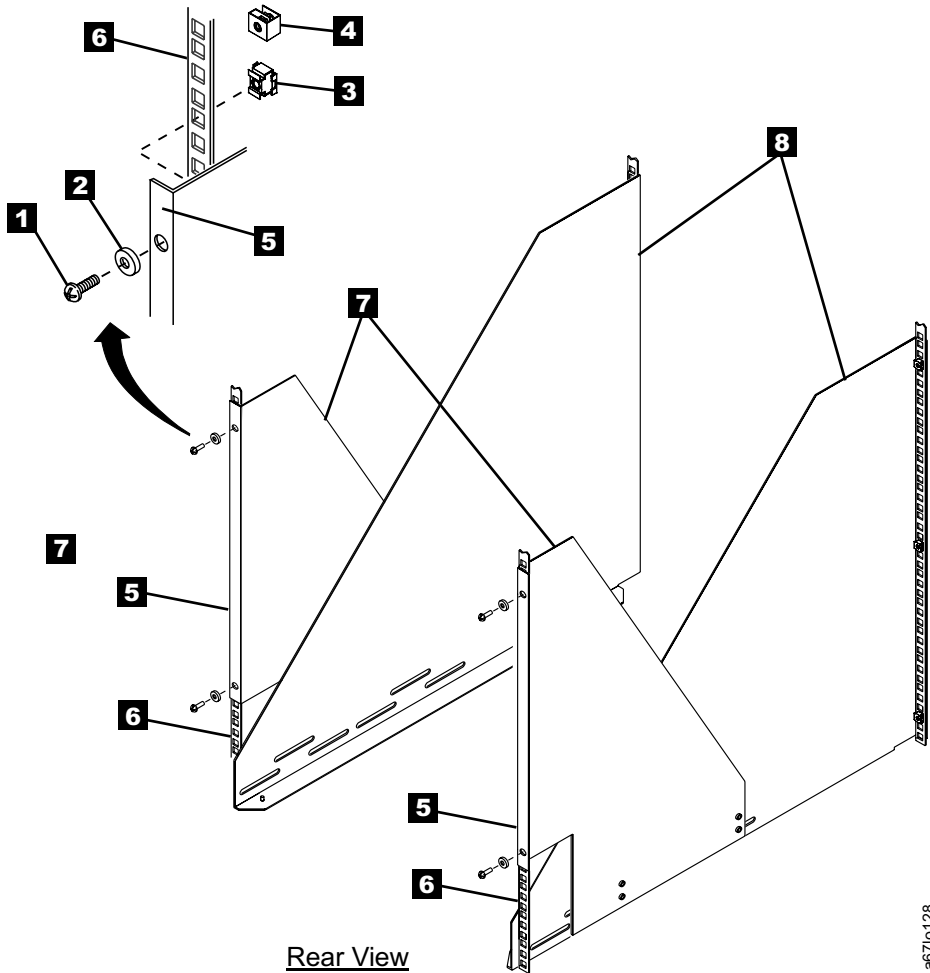

Figure 19. Installing the rear mounting brackets
8. Place one of the rear mounting brackets (see **7** in Figure 19) next to the rail **6**. Using the bracket as a template, install two cage nuts **3** (or clip nuts **4**) into the holes in the rail that are in line with the holes in the mounting bracket. Repeat this step for the second rear mounting bracket.